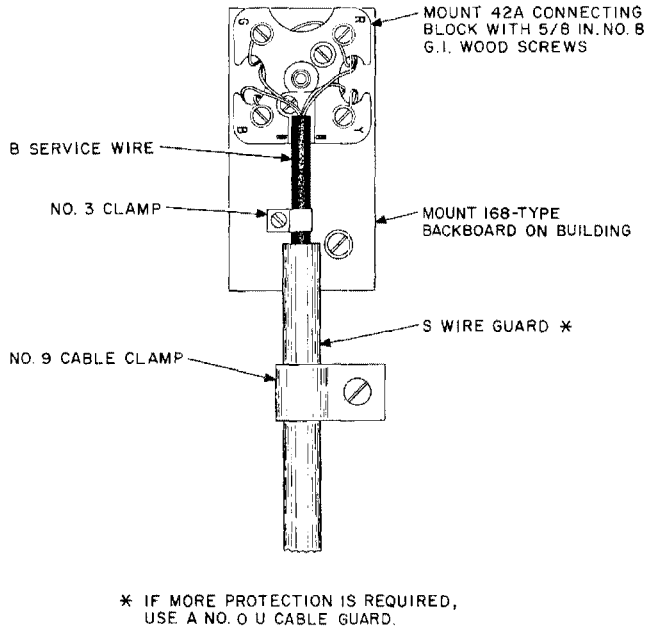

Fig. 11—Service Wire on 42A Connecting Block
5.07 Where a protector is not required, a service wire can be terminated on a 42A Connecting Block on a 168-type backboard as shown in Fig. 11.